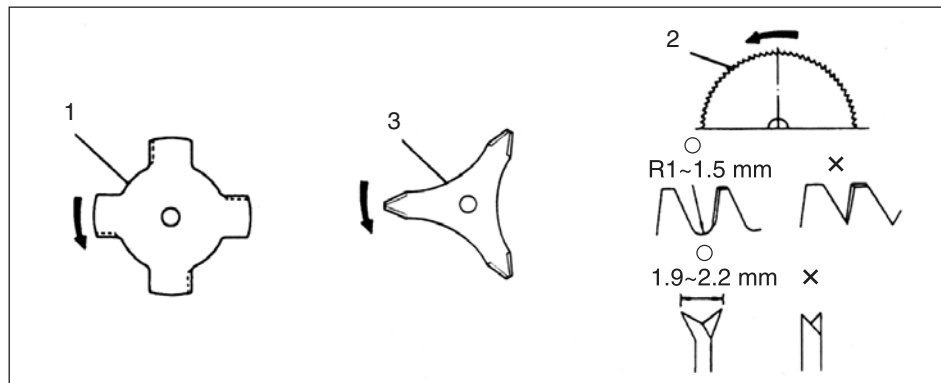

Fig.3-6
**Blade (Fig. 3-6)**
- When installing saw blade (2), always face the stamped side up. In the case of a 3 or 4 tooth blade (1, 3), it can be used on either side.